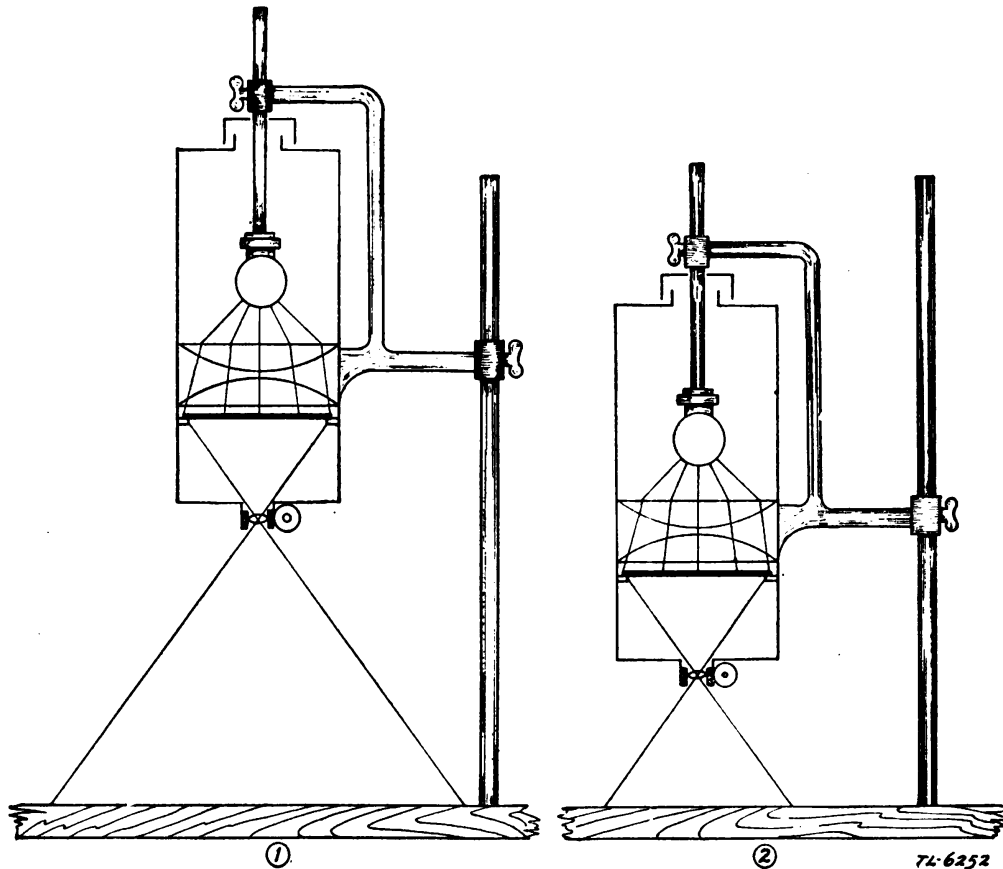

FIGURE 5.—Location of printer head for print size selection.
c. Optical system.—The optical system consists of a lamp, two condensing lenses, and an enlarging lens. (See fig. 5.)
(4) *Mechanics of focusing.*—The size of the projected image (fig. 5) depends on the distances between the negative, lens, and paper board, as well as on the focal length of the enlarging lens. Because of the constructional design, and the use of an enlarging lens of one focal length, the only variable factor that materially affects the print size is the distance between the negative and the paper board. The lens adjustment changes the relation between negative and lens very slightly, and is used for focusing purposes. The greater the distance between the printer head and the paper board (fig. 5①) the larger the size of the projected image. Conversely, the shorter the distance between the two elements (fig. 5②) the smaller the image. Whenever adjustments are made for a different print size, the lens must be refocused.